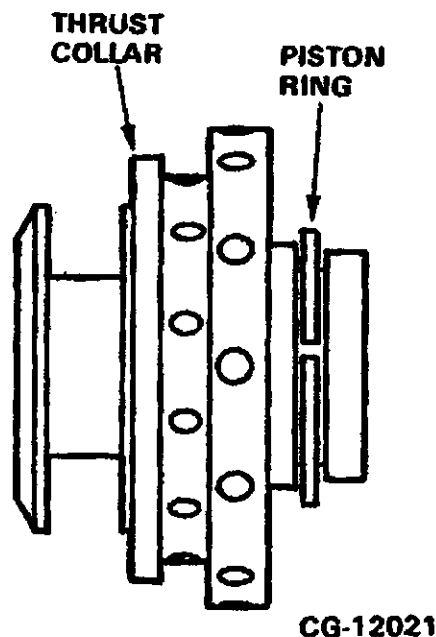

Figure 2.31. Piston Seal Ring Removal
- c. Remove the piston seal ring from the thrust collar using a small screwdriver to carefully pry it free. Refer to Figure 2.31.